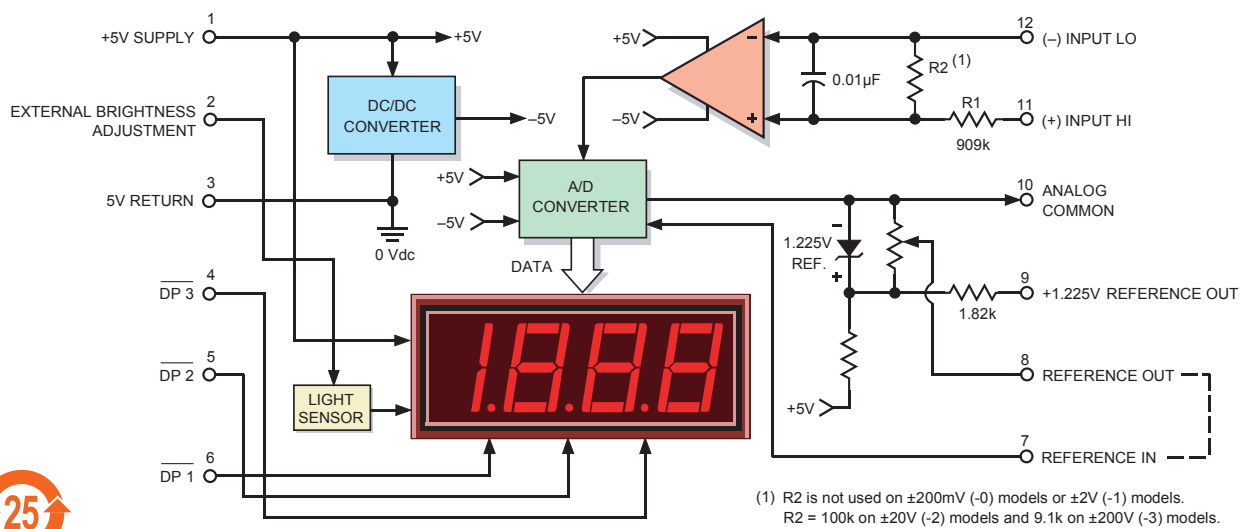

Figure 1. DMS-30DR Simplified Schematic
① Applies for transient or continuous overvoltages applied to (+) INPUT HI (pin 11) with (–) INPUT LO (pin 12) properly connected. Pin 12 is not overvoltage protected (see Figure 1). Voltages applied to pin 12 should not exceed the supply voltage.
② See Technical Notes.
The simplified schematic shown in Figure 1 can be very useful when debugging a malfunctioning panel meter circuit, particularly if the user has some knowledge of operational amplifiers (op amps). The meter’s high-impedance input consists of an op amp powered from a  $\pm 5Vdc$  power supply (the  $-5V$  is internally generated). Knowing this, one can easily see why input signals applied to (–) INPUT LO and (+) INPUT HI have to be kept within the power supply rails of  $\pm 5V$ . Also note that only pin 11 has a current-limiting 909k $\Omega$  series resistor. High input voltages that have a common ground with pin 3 (5V RETURN) should only be applied to pin 11 ((+) INPUT HI) and never to pin 12. In these high-voltage cases, pin 12 should always be tied to pin 3 (5V RETURN).